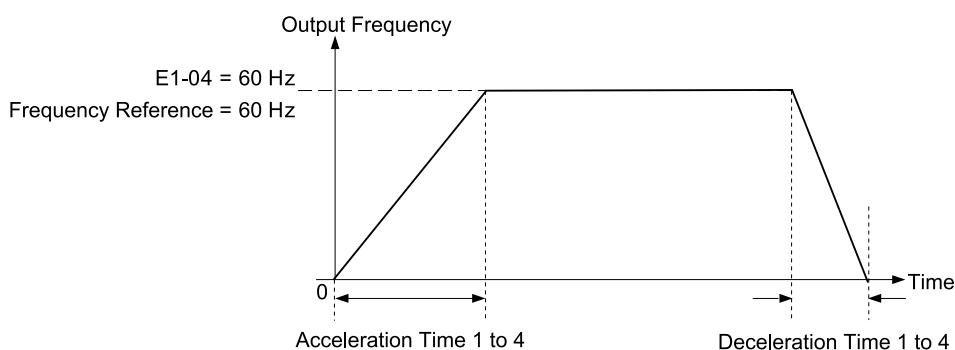
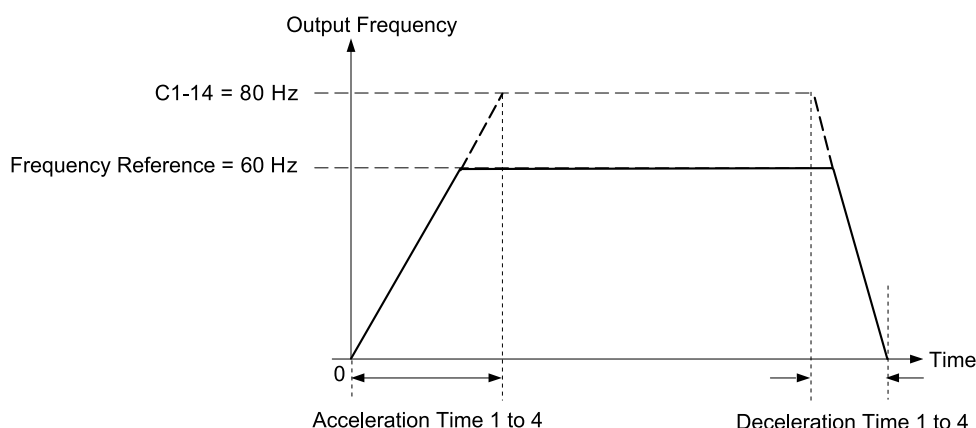

Figure 12.38 Example 1: Acceleration/Deceleration Rate (When *C1-14* = 0 Hz, *E1-04* = 60 Hz, and the Frequency Reference is 60 Hz)
Figure 12.40 Example 3: Acceleration/Deceleration Rate (When C1-14 = 80 Hz, E1-04 = 60 Hz, and the Frequency Reference is 60 Hz)
- Figure 12.38 to Figure 12.40 show the accel/decel times when C2-01 to C2-04 [Jerk@Start of Accel to Jerk@End of Decel] = 0.00 s.